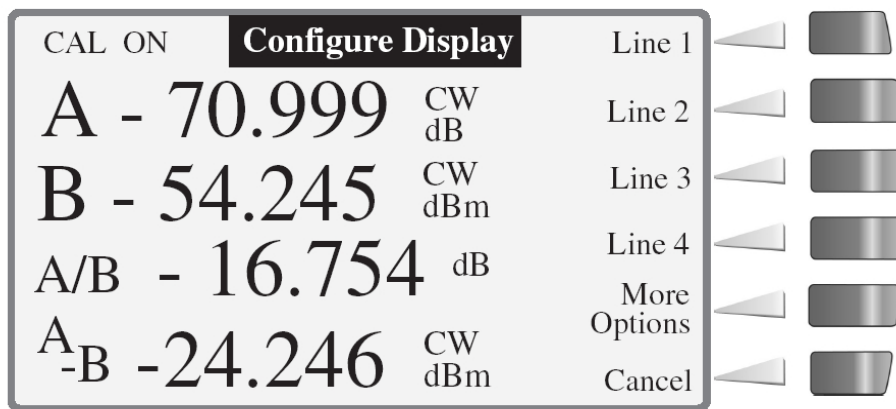

Figure 2-11: Configuration Display Menu
From the Main Menu, press **[Display Setup]** to select the Configure Display menu (See Figure 2-11). This screen is the same as the Main Menu except the control items are changed to display line configuration options. The configuration of each line includes the source and data format, data resolution, and peaking meter (bar graph) when configured for use. In addition, the control to set the screen brightness is included in this display (other Options).
1. Select **[More Options]** from the Configure Display menu (See Figure 2-11) to set the brightness of the display screen. The adjustments, made with the cursor keys, are interactive, allowing the observation of the brightness. The range is 0% (off) to 100%. The default is 70%.